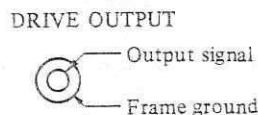

Fig. 7-4 Relay Drive Output Connector
(2) Output terminal
DRIVE OUTPUT connector (31) on the instrument's rear panel is an RCA-type pin jack. As shown in Fig. 7-4, the inner conductor supplies output and the outer conductor is connected to the frame ground. For connecting DRIVE OUTPUT connector (31) and relay, connect the inner conductor and the \oplus terminal of the coil, and the outer conductor and the \ominus terminal of the coil. If the coil of the relay has no polarity, either connection is allowed.